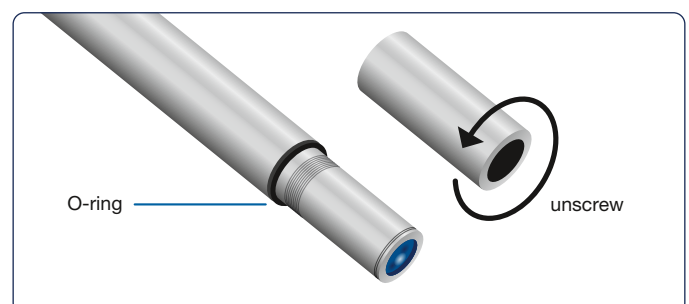

Figure 14: Replacing the ODO Cap.
- 1) Unscrew the ODO Cap from the shaft (Figure 14).